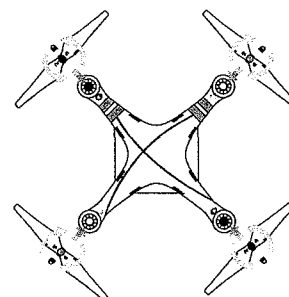

Figure 21
- (2) (Figure 21) Spin grey marked propellers clockwise onto unmarked motors and black marked propellers anti-clockwise for black marked motors.